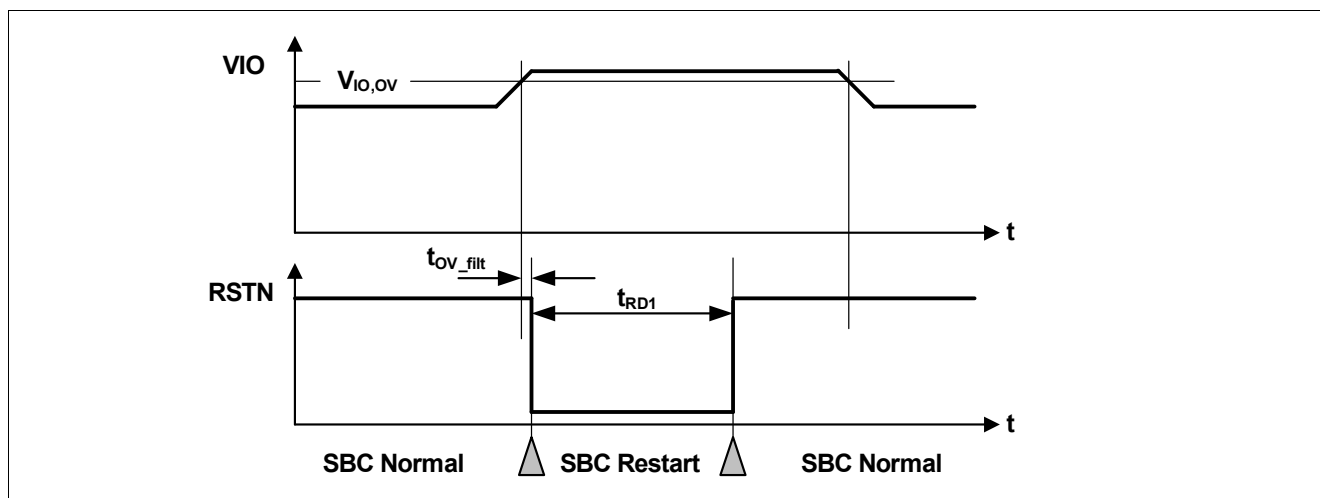

Figure 41 VIO Overvoltage Timing Diagram
- If the bit **VIO\_OV\_RST** is set in config 1/3, then SBC Restart Mode is entered. The FO output is activated. After the reset delay time ( $t_{RD1}$ ), the SBC Restart Mode is exited and SBC Normal Mode is resumed even if the VIO overvoltage event is still present (see also Figure 41). The **VIO\_OV\_RST** bit is cleared automatically.